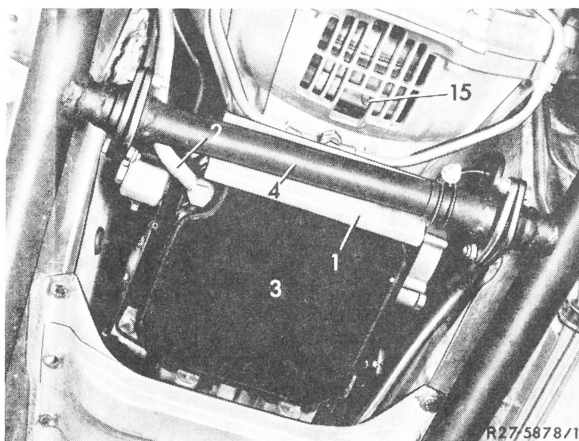

Fig. 1
- 3 Drain transmission oil. For this purpose, unscrew oil filler pipe (2) on oil pan (3) of transmission. Unscrew drain plug (15) out of torque converter (Fig. 1). Use clean vessel only. Then screw-in drain plug (15) with new sealing ring and tighten well.